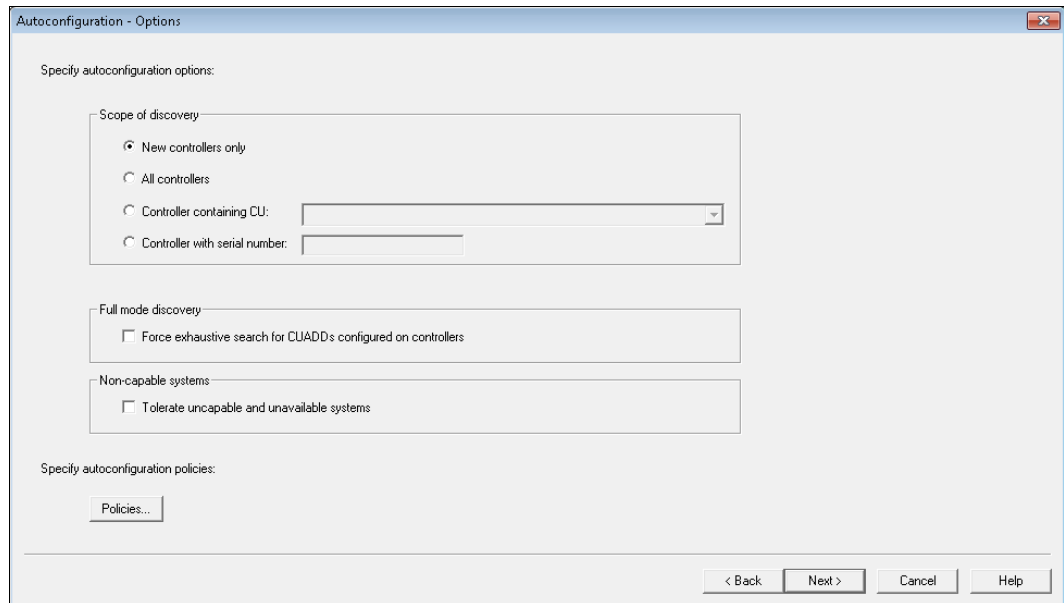

Figure 4-39 HCM - Autoconfiguration: options
3. As described in the HCD examples, set up the LP groups and OS groups. Click **Policies** under Specify autoconfiguration policies (Figure 4-39).